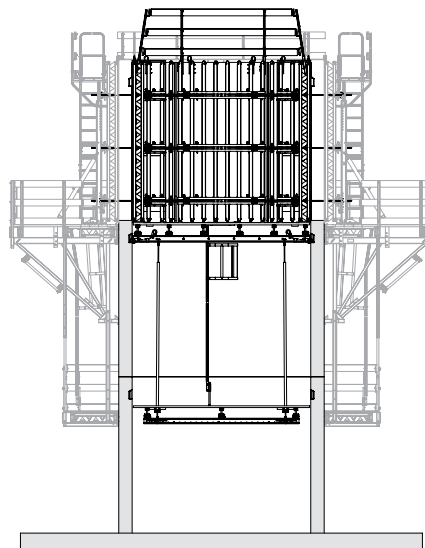

Fig. A4.05
5. Position the internal formwork and align. (Fig. A4.05)